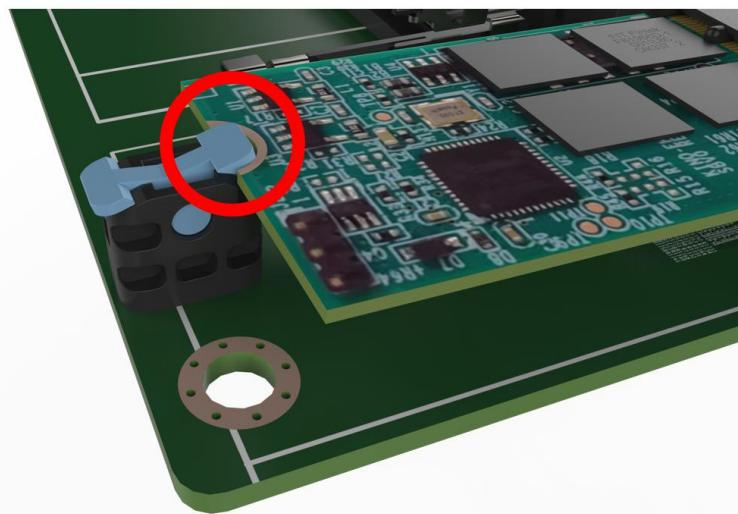

Figure 3-10: Insert M.2 Card
Step 4: Insert M.2 card. The notch at the end of the M.2 card needs to be aligned with the notch of the fixed buckle (**Figure 3-10**).